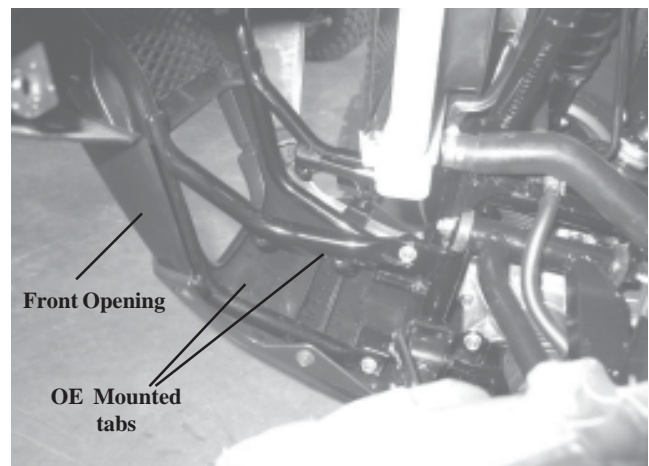

Figure 1
1. Slide bracket through the front opening in-between mounting tabs. See Figure 1.